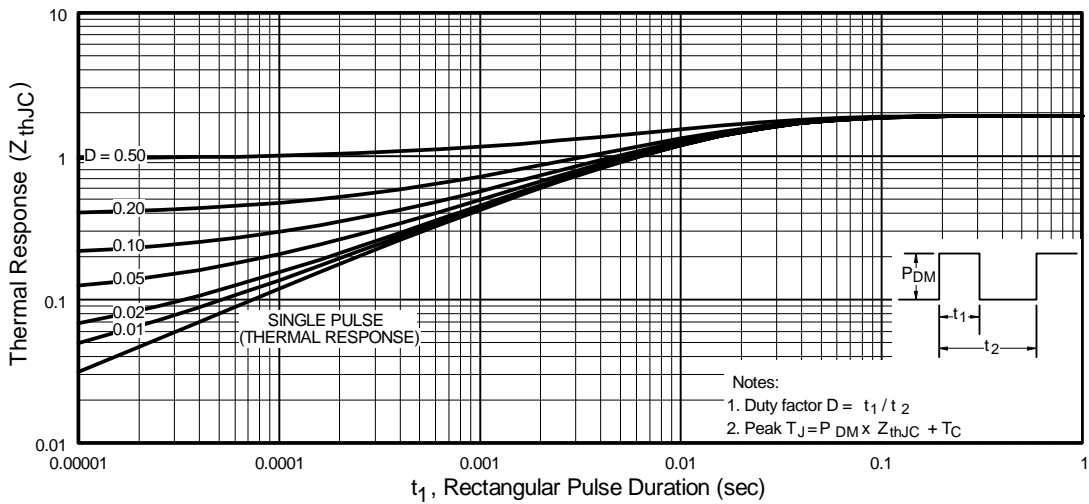

Fig 11. Maximum Effective Transient Thermal Impedance, Junction-to-Case
- ① Repetitive rating; pulse width limited by max. junction temperature. (See fig. 11)
- ② Starting T_J = 25°C, L = 6.4mH